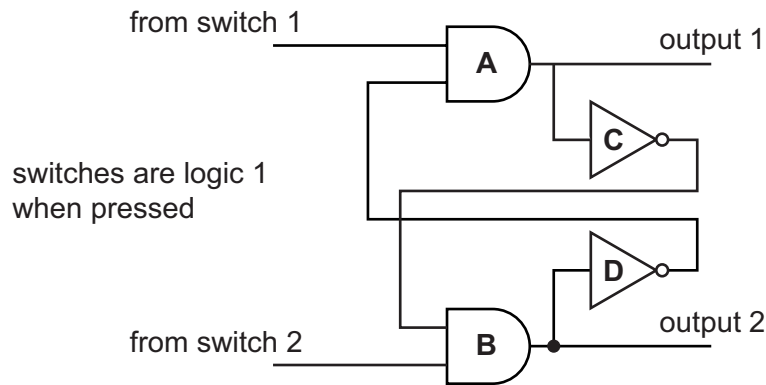

Fig. 23
- (e) In a quiz competition the first player to press their switch can answer the question. Fig. 23 shows a logic circuit that can detect which switch has been pressed first.